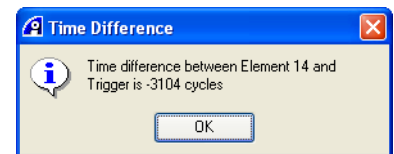

Figure 9-5 Time measurement from trigger dialog box
3. Select **Time Measure from Trigger** from the context menu to open the Prompt dialog box. Figure 9-5 shows an example: